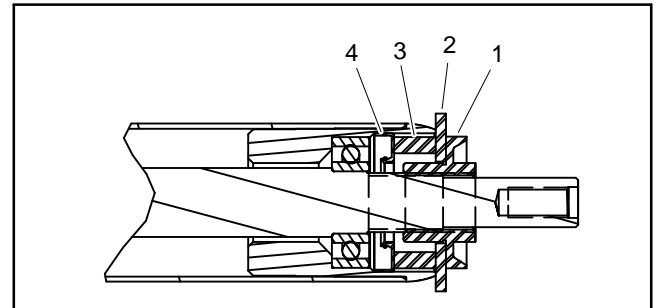

Figure 32
8. Position an assembly spacer and yellow assembly washer (see Special Tools) on each end of roller shaft (Fig. 32). Thread nut onto each end of shaft.